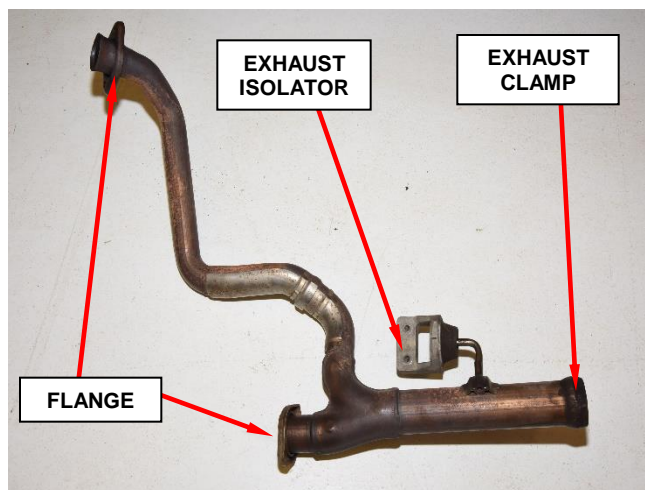

Figure 9 – “Y” Pipe
14. Remove the “Y” pipe (Figure 9).